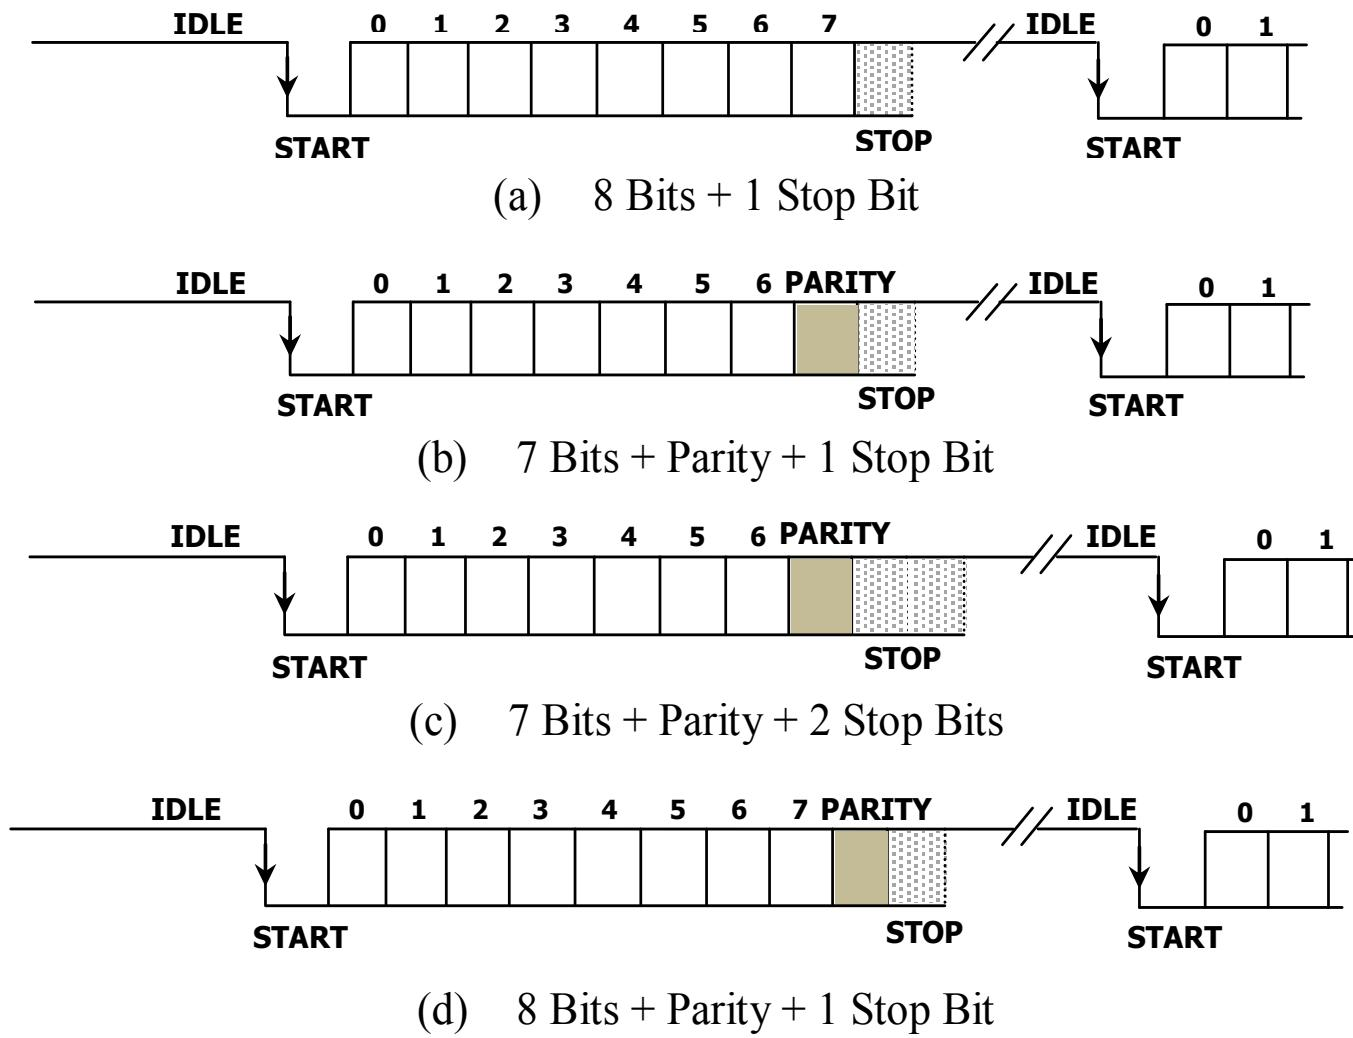

Figure 8.3 Some popular data transfer framing bits structures.
- These code bits can be considered as the *framing bits* or *frame* to inform the receiver when the data transfer begins and when it ends. Figure 8.3 shows some popular data framing bits structures (next slide).
- As shown in Figure 8.3, depends on the different framing bits, the data can be transferred as a 8-bit data (1 byte) plus a stop bit (Figure 8.3a), a 7-bit data plus a parity bit with a stop bit (Figure 8.3b), 7-bit data plus parity with 2 stop bits (Figure 8.3c) or 8-bit data plus parity with a stop bit (Figure 8.3d).